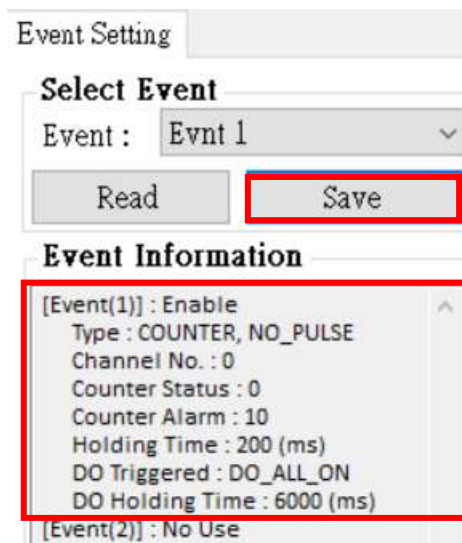

Figure 6.10.30
- K. After setting, select “SAVE” to save as shown in Figure 6.10.30. Complete the list below and the setting will be displayed